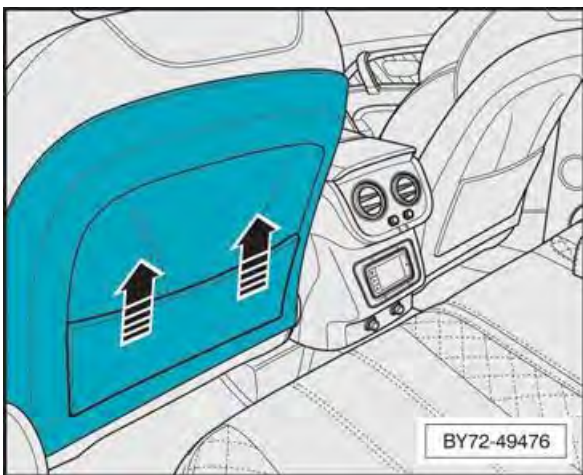

Figure 14
6. Lift the clamshell upwards—arrows- to release the lower tabs and remove clamshell (see Figure 14)